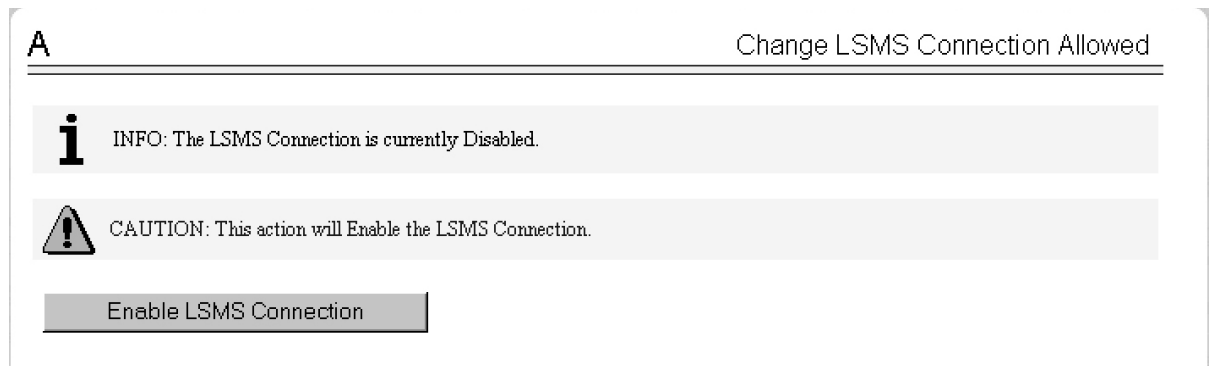

Figure 26: Enable LSMS Connection Window
- b) Select **Maintenance>LSMS Connection>Change Allowed**: a window similar to the example shown in Figure 26: Enable LSMS Connection Window displays.